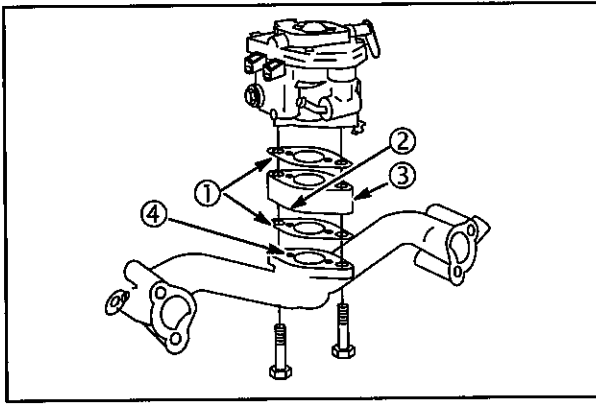

Fig. 29
- Assemble gaskets (1), spacer (3) and carburetor to intake manifold, **Fig. 29.**